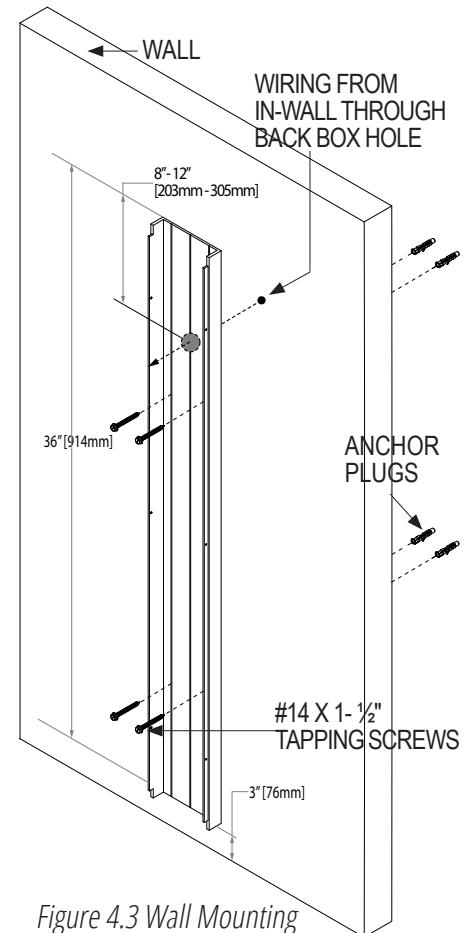

Figure 4.3 Wall Mounting
- Secure the Back Box to the wall with the #14 x 1-1/2" tapping screws provided. (Figure 4.3 and 4.4)
- Secure the Back Box to the frame with the $1/4$ "-20 machine screws. (Figure 4.3 and 4.4)